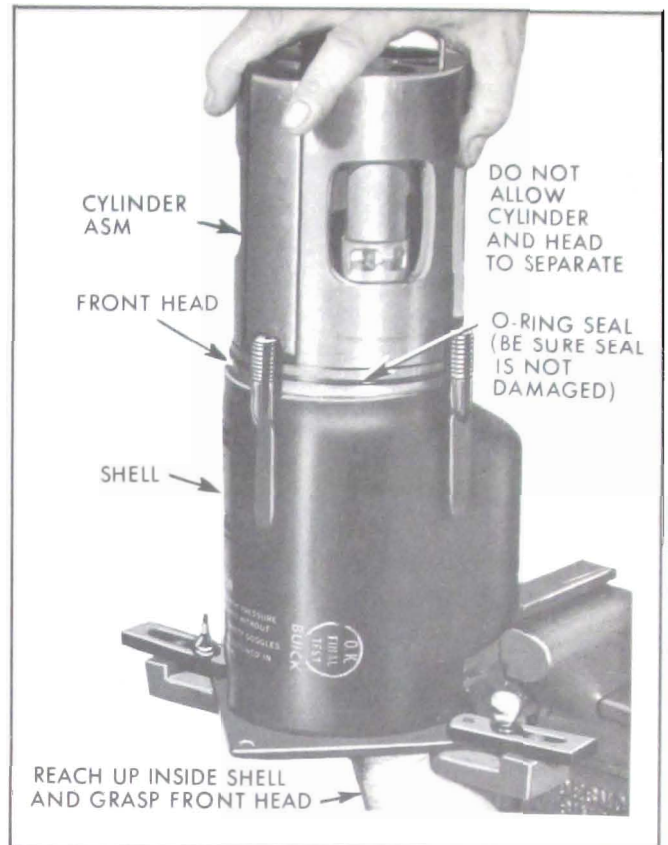

Figure 11-125—Inserting Cylinder Assembly in Shell
9. Coat the inside machined surfaces of shell with clean 525 viscosity compressor oil. Line up oil sump with oil intake tube hole and lower mechanism into shell. Extreme care must be used to prevent large O-ring seal from being damaged. Maintain this alignment when lowering mechanism into place. See Figure 11-125.